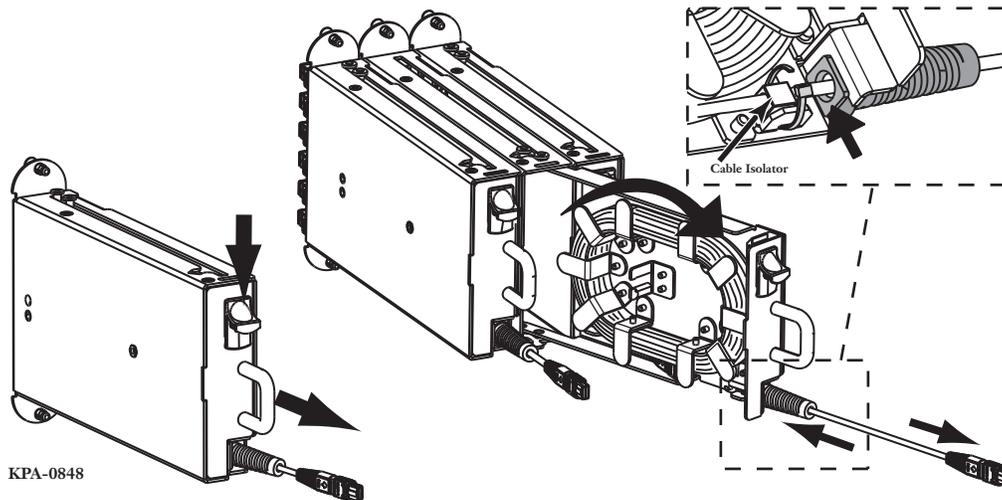

Figure 7
Step 5: If there is no external reel and all of the cable is stored inside the ITM, it is necessary to press down on the latch and pull on the handle to open the tray and access the cable for deployment (Figure 7).
Step 8: Slide the boot back to the ITM. Align the groove in the boot with the cutout in the rear of the ITM. Push the boot into the cutout until it seats completely (Figure 7).